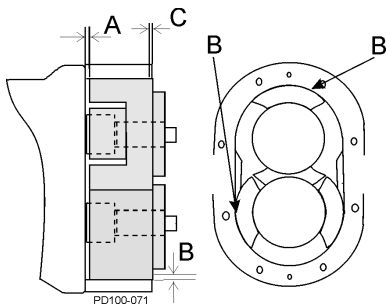

Figure 55 - Measure Clearance
9. Measure the rotor backface clearance (Figure 55, item A) through the port or from the front. The backface clearance for both rotors must be the same to prevent rotor crossover contact and must be $\pm .0005$ " of the value found in Table 6, "Standard Rotor Clearance," or Table 7, "Hot Rotor Clearance," on page 37.
10. Check the rotor front face clearance (Figure 55, item C).
11. Check the rotor to body clearance (Figure 55, item B).